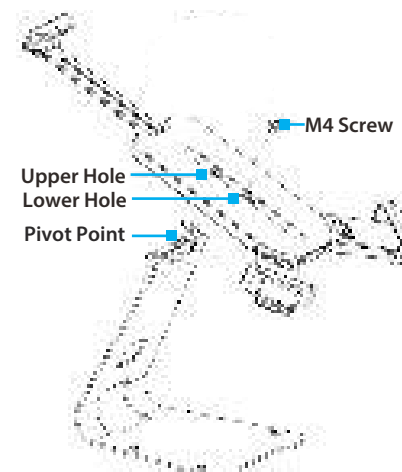

Figure 2
1. While the **Table Holder Arm (Top)** is fully extended, align the hole in the **Tablet Holder** with the **Pivot Point** on the **Tablet Stand**. Continue to hold the **Tablet Holder**. (Figure 2)